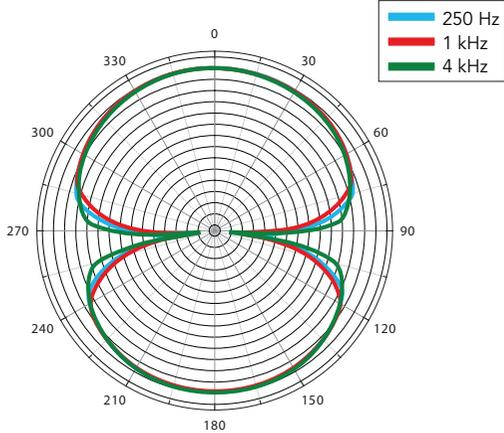

Figure-8
- When in the Figure-8 position (fully clockwise), the microphone picks up sound from in front and behind, and rejects sound from the other two sides. This pattern is commonly used for interviews (Two people with the microphone between them) or in conjunction with a cardioid microphone to use the MS (mid-side) stereo recording technique.